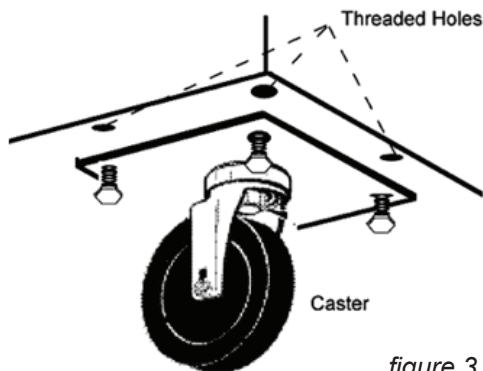

figure 3
Please note that Traulsen units are not designed to be moved while on legs. If the unit requires moving, a pallet jack or forklift should be used to prevent damage. For installing casters, the casters are "plate" type, and require the use of four (4) bolts each to secure them firmly to the cabinet bottom at each corner (see figure 3). The caster bolts are tightened using a 1/2" socket wrench.